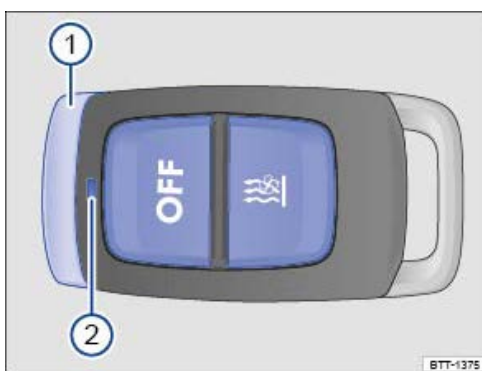

Fig. 125 Auxiliary heater: remote control.
- *Switching on:* press the  button → Fig. 125. If the indicator lamp lights up green for approximately 2 seconds, the auxiliary heater is switched on.
The indicator lamp → Fig. 125  will give you feedback on various situations after you press a button.
An optimal range is achieved when you hold the remote control with the aerial → Fig. 125  vertically upwards. Do not cover the aerial.